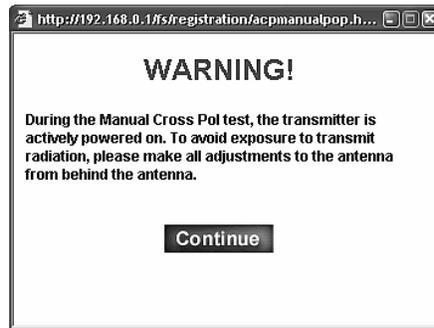

Figure 28: Manual cross-pol warning message
18. Click **Continue** on the Warning pop-up shown in Figure 28.